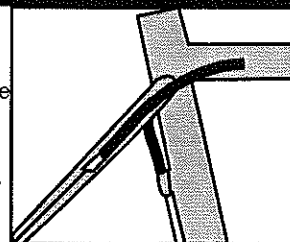

Fig. 13
2. Slide the housing onto the cables. The longest rear housing, for the rear derailleur, exits the top tube on the right side. Thread it from the right side of the bike to reach the cable stop on the seatstay (Fig. 13).
3. The front derailleur housing exits the rear of the top tube on the left side. Thread it to its cable stop on the seat tube (Fig. 13).